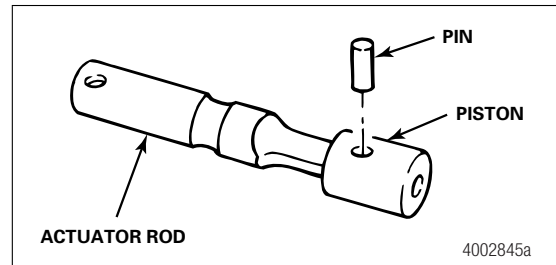

Figure 3.15
6. Remove the pin from the rod and piston, if necessary. Figure 3.15.